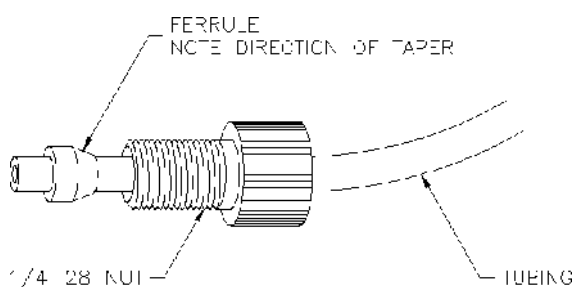

Figure 2-2. Configuration of 1/4-28 Nut, Ferrule and Tubing
- e) Push the tubing through a PEEK 1/8" male 1/4-28 fitting and slide a ferrule over the tubing end as shown in Figure 2-2.